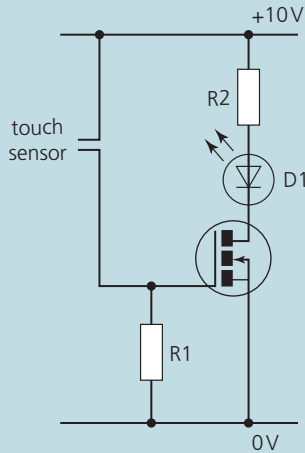

Figure 12
7. In the circuit of Figure 12, a touch sensor is used to turn on an LED. What is the purpose of